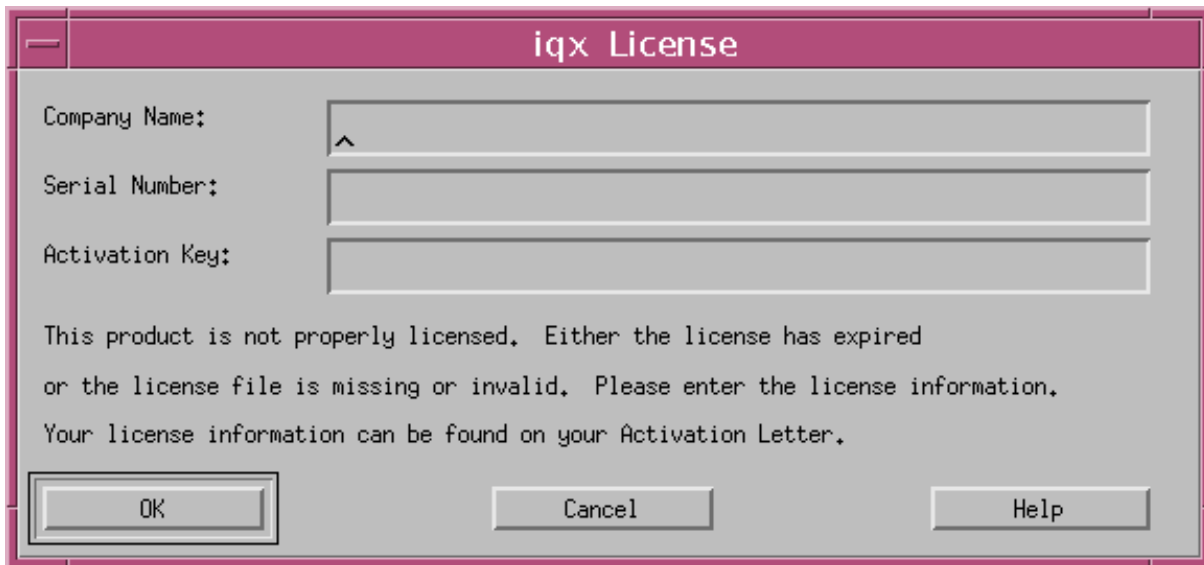

Figure 26.22.1-4. iqx License Dialogue Box
- 15 If the **iqx Open IQView** GUI (Figure 26.22.1-3) is displayed and the desired IQView has not been defined previously, click on the **Add Database...** button.
- The **iqx Sybase Database Logon** GUI (Figure 26.22.1-2) is displayed.
- 16 When the **iqx Sybase Database Logon** GUI (Figure 26.22.1-2) is displayed, type the appropriate entries in the following fields: